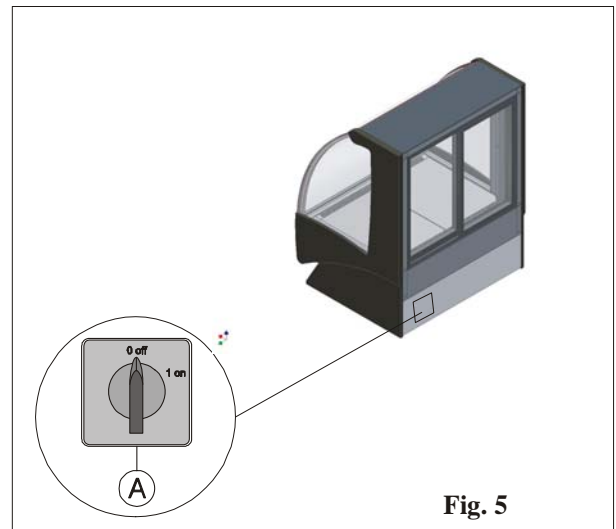

Fig. 5
- 2) Activate the display cabinet master switch, which is found on the rear protection panel. To introduce the electric power supply to the display cabinet, place the master switch at position “1” (fig. 5 pos. A).
To stop the plant act on switch (A), which is found behind the rear protection panel. Position the master switch at “0” (fig. 5 pos. A) disconnecting the display cabinet power supply.